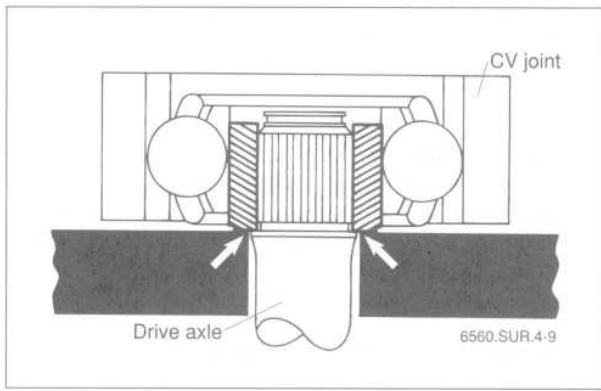

Fig. 12. Support CV joint at inner hub (arrows) during pressing operation.
4. While supporting the inner hub, press the drive axle out of the joint. See Fig. 12.
- Apply Loctite®270 or an equivalent heavy-duty locking compound to the drive axle splines. Position the new CV joint on the shaft so that the hub with the raised or taller side is facing the shaft. See Fig. 12 above.